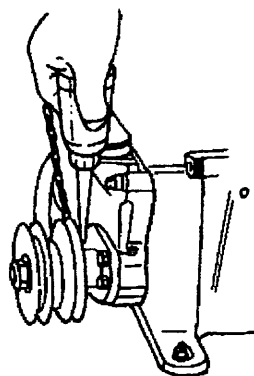

Fig. 25
- 2) Starter chain free gear metal (see Fig. 25)